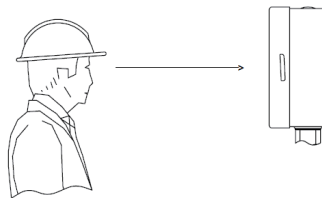

Figure 10
- 5) When checking the current pressure, make sure the gauge is installed on the same height of observer's eye level (Figure 10)